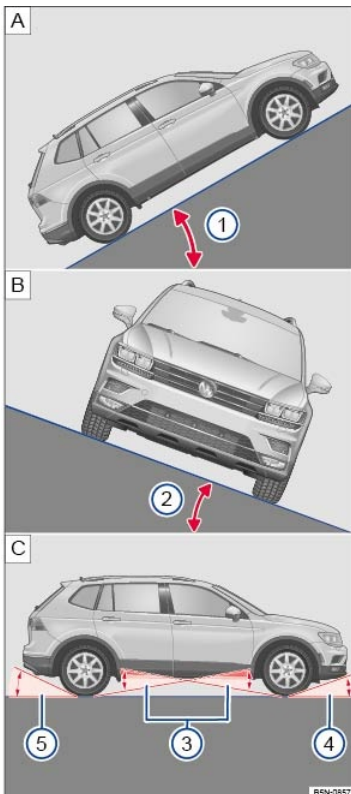

Fig. 123 Important angles to know for off-road driving.
Key to ⇒ Fig. 123 :
- ① Gradient angle
- ② Lateral angle
- ③ Breakover angle
- ④ Approach angle
- ⑤ Departure angle
**Gradient angle** The number of feet (meters) in altitude gained when traveling about 328 ft (100 m) is given as a percentage or in degrees ⇒ Fig. 123①. The maximum slope the vehicle can climb unassisted depends on road surface and engine power.
**Lateral angle (vehicle slope)** The maximum angle the vehicle may be driven across terrain without the vehicle rolling over (depends on center of gravity) ⇒ Fig. 123②.